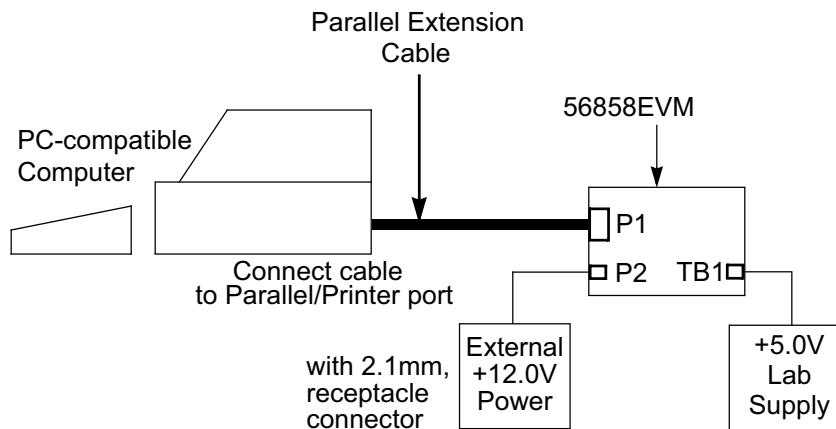

Figure 1-3. Connecting the 56858EVM Cables
An interconnection diagram is shown in Figure 1-3 for connecting the PC and the external +12.0V DC/AC power supply or external +5.0V DC lab power supply to the 56858EVM board.
2. Connect the other end of the parallel extension cable to P1, shown in Figure 1-3, on the 56858EVM board. This provides the connection which allows the host computer to control the board.
4. Connect the 2.1mm output power plug from the external switching power supply into P2, shown in Figure 1-3, on the 56858EVM board. Optionally, attach an external +5.0V DC lab power supply via the 2-pin terminal block, TB1.